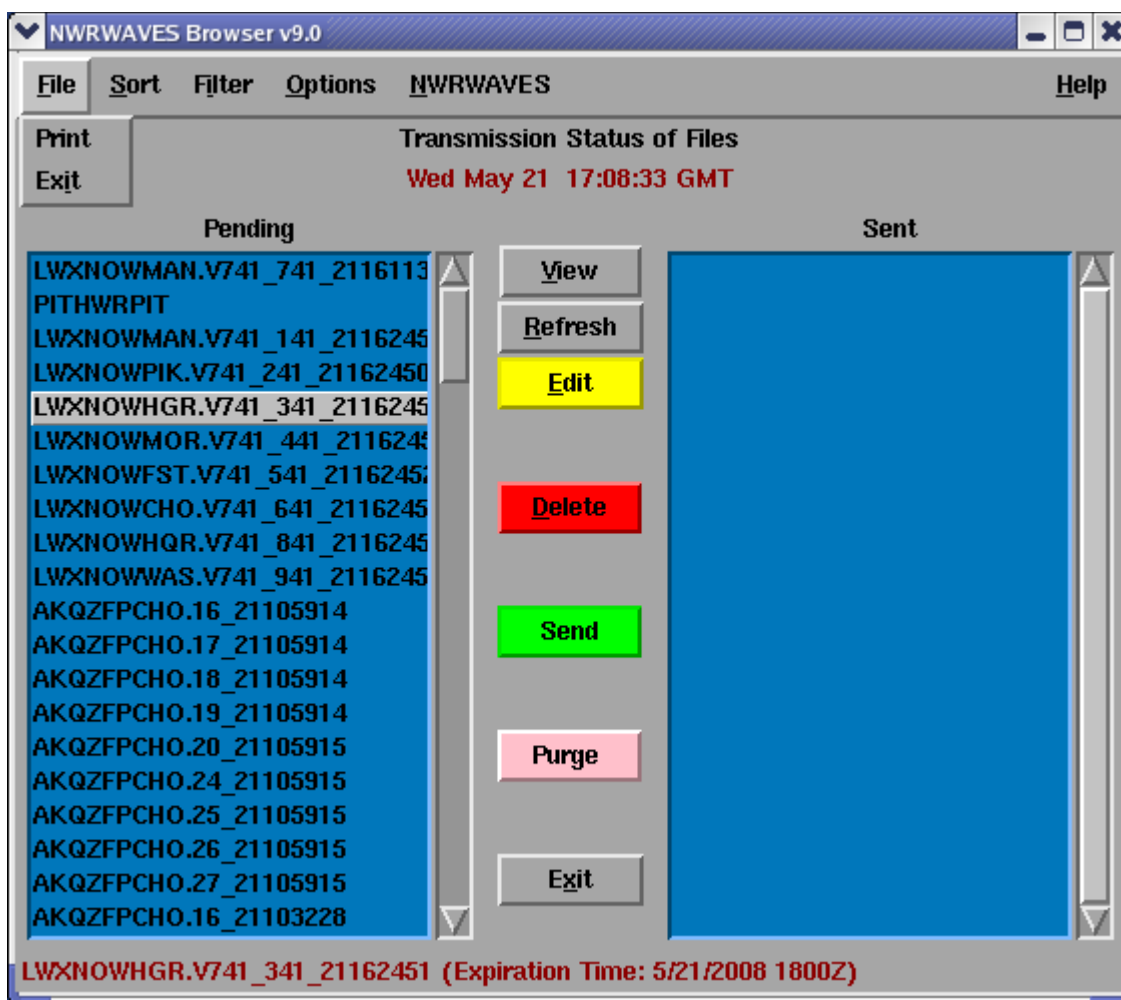

Figure 9 – NRRWAVES Browser (front-end application to NRRWAVES)
- a. Print – Print highlighted items from Pending/Sent lists (see Figure 9)